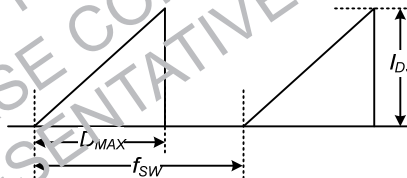

Figure 4. Repetitive Peak Switching Current
- Repetitive peak switching current when the inductive load is assumed, limited by maximum duty (D_{MAX}=0.73) and junction temperature (see Figure 4).